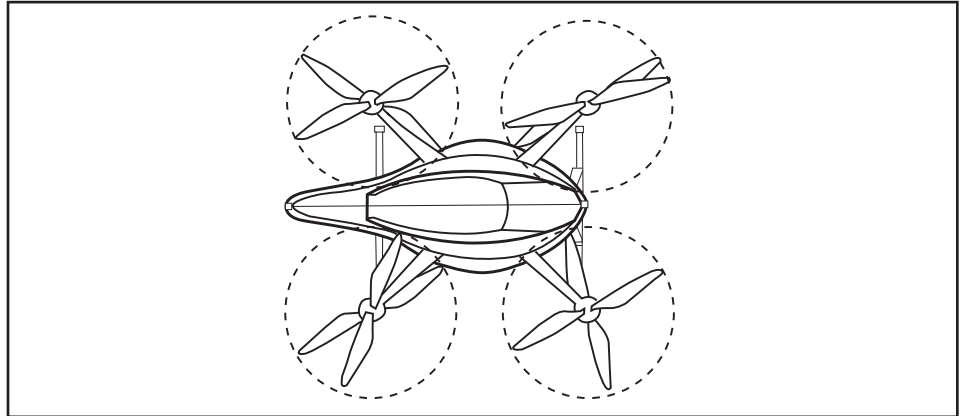

Figure 10: Radius Area of Propellers
- When conducting tasks with the RPA such as loading the payload or changing the batteries, stay clear the radius area of the propellers. Refer to “Figure 10: Radius Area of Propellers”.